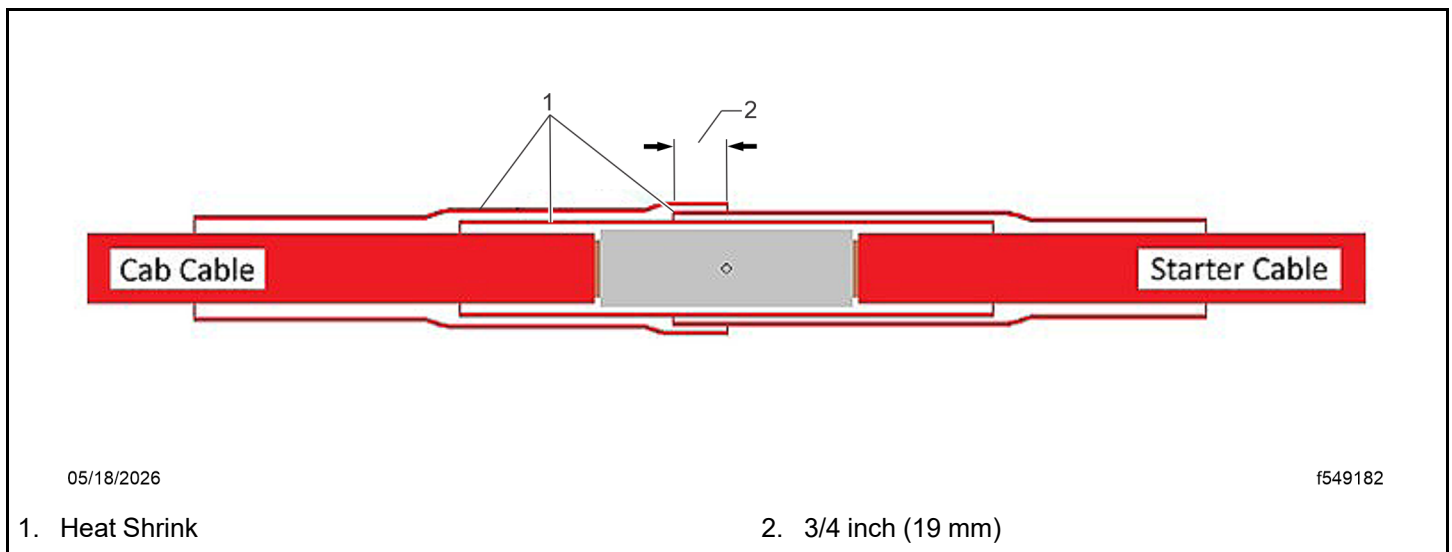

Fig 84, Heat Shrink Insulation
41. Insulate the butt connections with heat shrink sleeves. See Fig. Fig. 84.